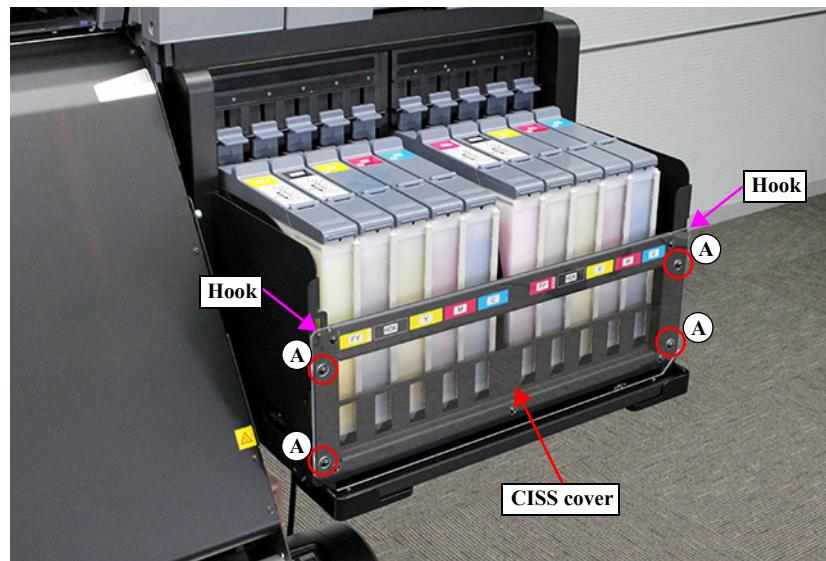

Figure 3-142. Removing the CISS cover
Attach two hooks of the CISS cover to frame. (Figure 3-142)
9. Attach the CISS cover. (Figure 3-142)